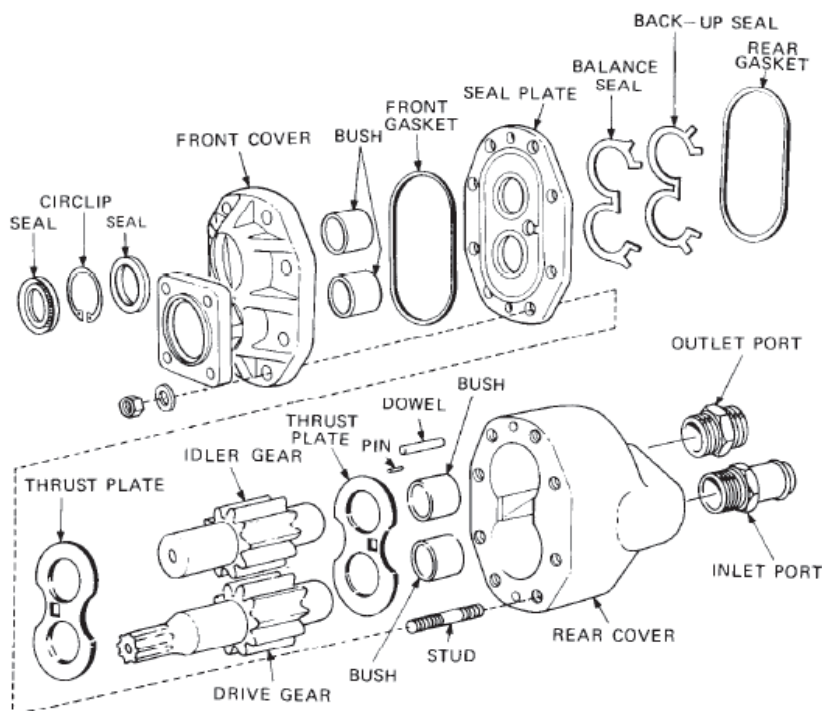

Figure 8 Hydraulic Pump – Exploded View
33. The hydraulic pump is flange mounted directly onto the drive output end of the PTO. The pump drive gear is splined to the PTO drive shaft. The drive gear and idler gear shafts are both mounted in bushes (Figure 8). When operating, hydraulic fluid is drawn from the reservoir through the pump inlet port. The rotation of the gears forces the fluid out the outlet port under pressure. The hydraulic fluid also provides lubrication for the working components of the pump.